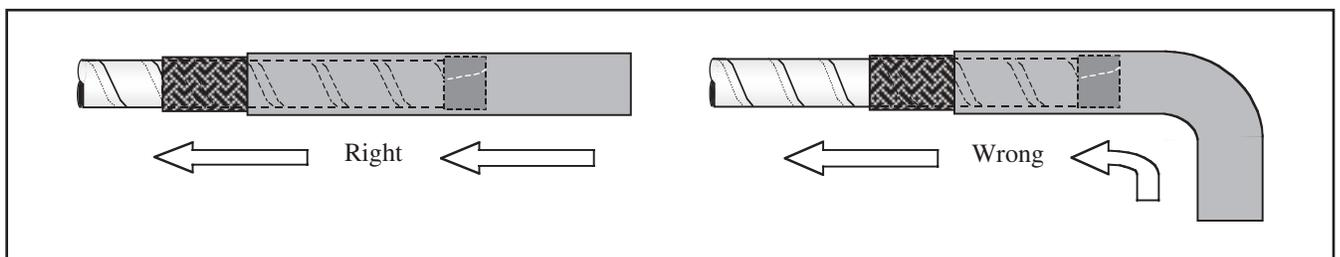

Figure 16
4.5 Guide one re-jacketing sleeve assembly over each cable phase leg (Figure 16). **Push sleeve assembly from above. Continuously guide the free end, maintaining sleeve-to-cable-core alignment.**